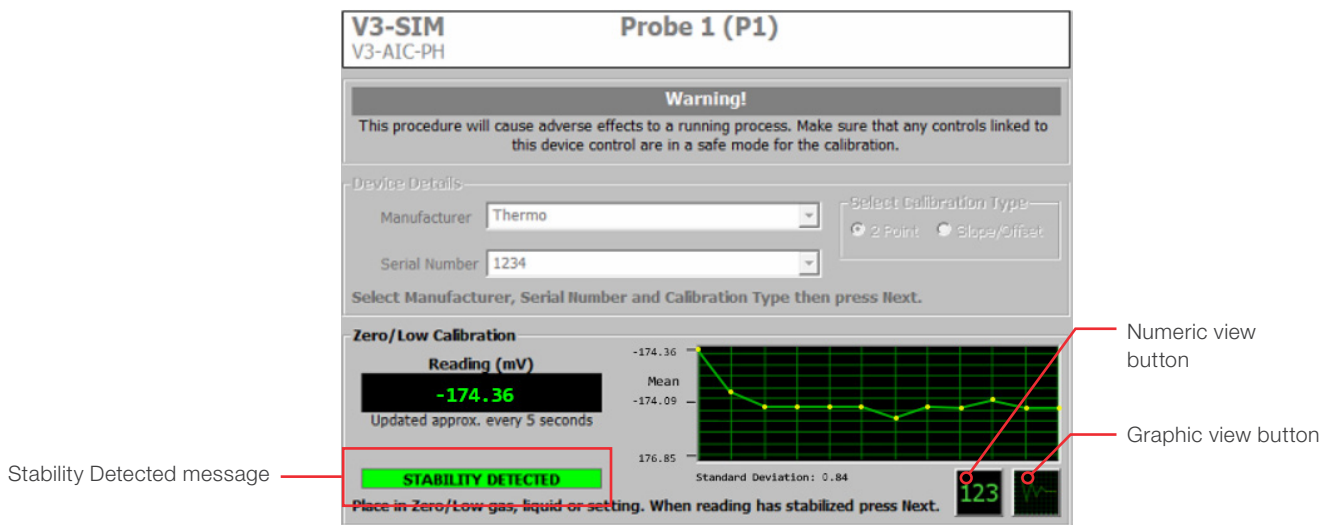

Figure 3.12. Stability Detected message for first calibration point.
5. The display advances to the **Zero/Low Calibration** screen. Place the probe in the lower pH calibration buffer and observe the screen. The display updates every five seconds, and when the standard deviation of the displayed points is less than 1%, the **Stability Detected** message appears (Figure 3.12).
- The display can be either numeric or graphic. Click a view button at the bottom right (Figure 3.12) to change the display. Both display options are labeled in Figure 3.14.